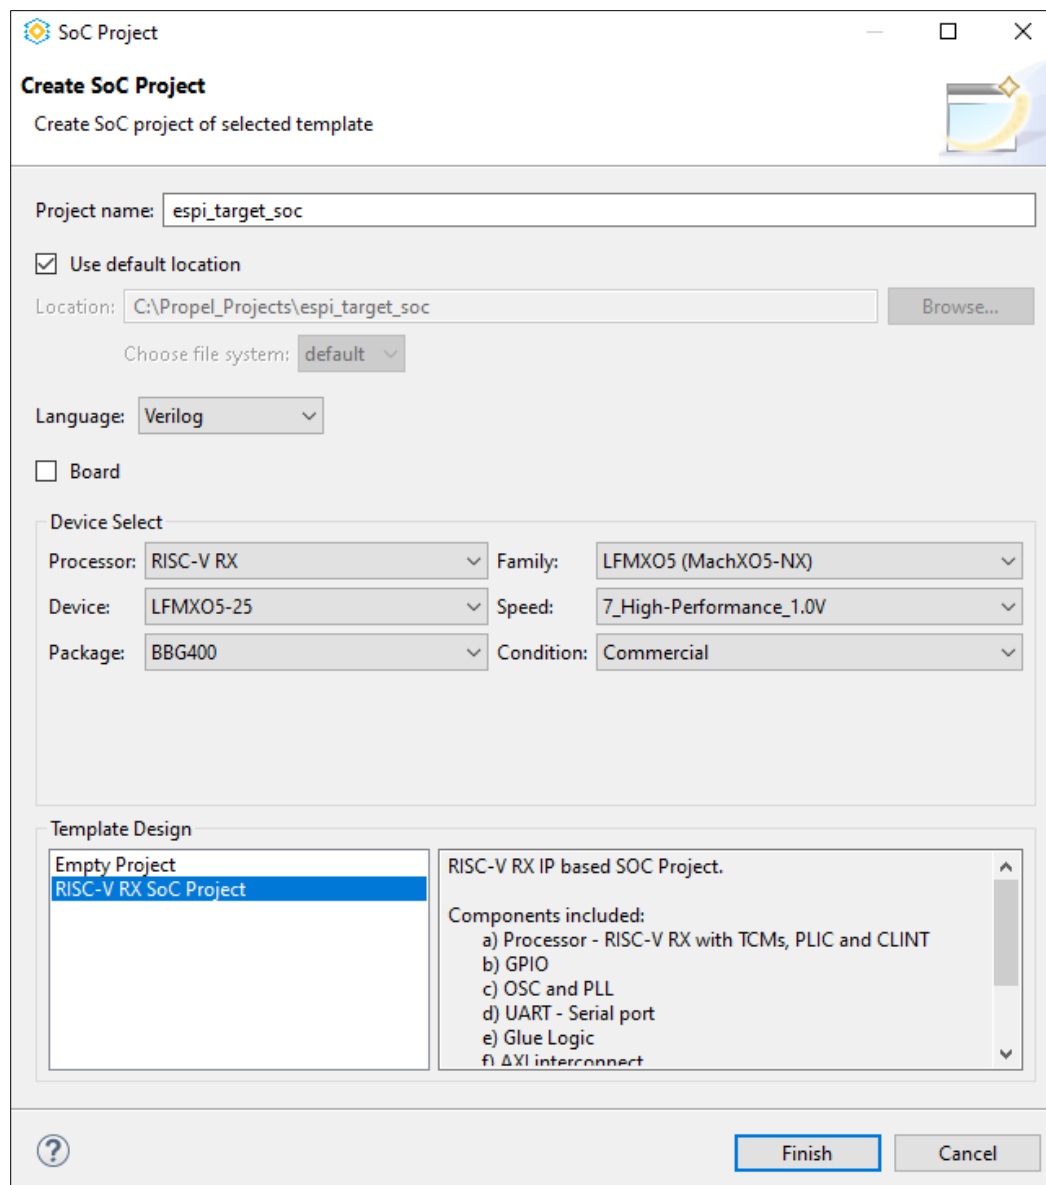

Figure 6.2. Create SoC Project
- In the **Device Select** section, specify details of the device or board that you are using. In Figure 6.2, the device is set to LFMX05-25-8BBG400C since MachXO5-NX Development Board is used in the hardware testing.